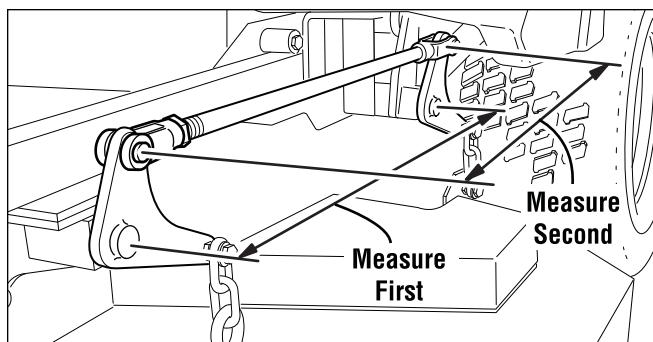

Figure 38. Check Lift Rod Timing
- To check the lift rod timing, measure and record the distance between the lift pivots and the rod pivots. Repeat for other side of unit. See Figure 38.